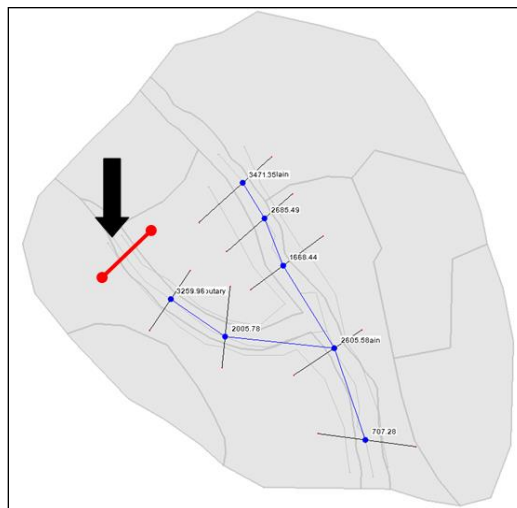

Figure 3 Cross section coverage
3. Create a cross section near the top of the leftmost reach by clicking a point on one side of the reach then double-clicking a point on the other side of the reach as shown in Figure 3.